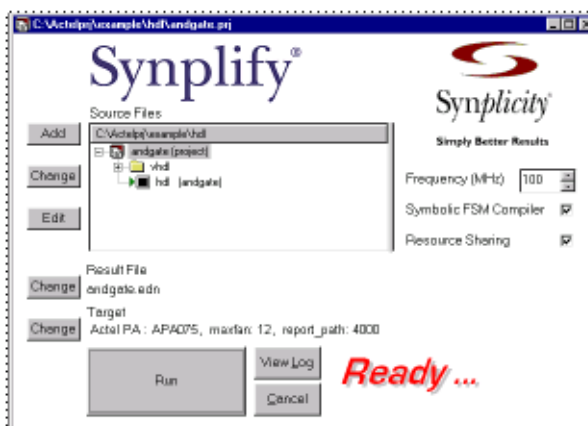

Figure 5-16. Synplify
1. In the Libero IDE, double-click the Synplify Synthesis icon in the Libero IDE process window or right-click the *andgate* file under the Design Hierarchy tab and select *Synthesize*. This launches the Synplify synthesis tool with the appropriate design files, as shown in Figure 5-16.